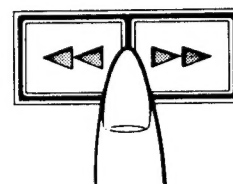

Fig. 3
5. To stop tape play or replace the cassette, fully depress both Fast Forward/Rewind Buttons ⑥ at the same time. (Fig. 3)